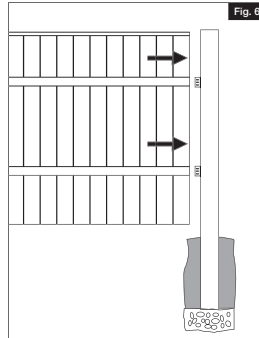

Fig. 6
- Set panel into the brackets on the first pre-set post (Fig. 6).